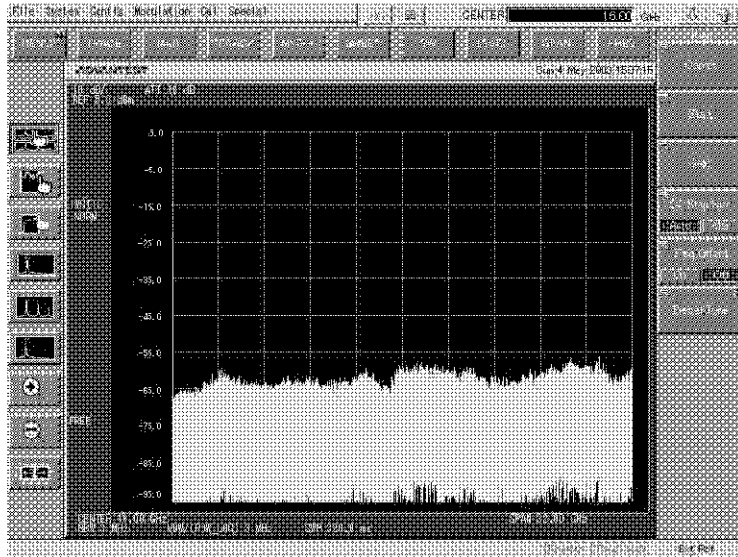

Figure 3-8 Initial Setup Screen
5. The initial screen shown in Figure 3-8 is displayed unless this instrument is faulty. The initial screen may give look differently from Figure 3-8, depending on the settings in effect the last time this instrument was switched off.